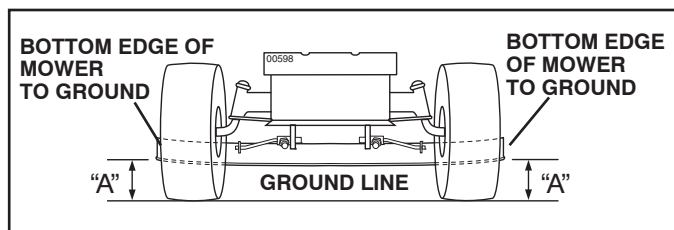

FIG. 26
**SIDE-TO-SIDE ADJUSTMENT** (See Figs. 26 and 27)